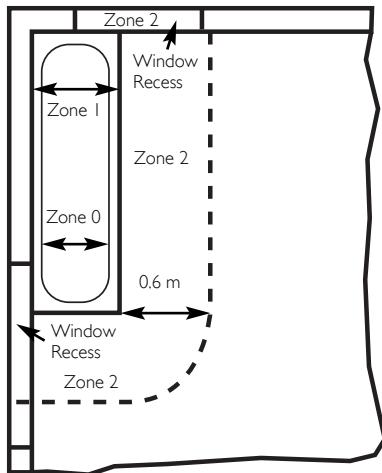

Fig. 11 In GB Only
1. If the boiler is fitted in a room containing a bath or shower and **NOT FITTED** with any optional integral timer or thermostat, it can be fitted in zone 2, (Figs. 11 & 12 show zone dimensions for a bathtub. For other examples refer to the Current I.E.E. Wiring Regulations) reference must be made to the relevant requirements. In GB this is the current I.E.E. Wiring Regulations and Building Regulations. In IE reference should be made to the current edition of I.S. 813 "Domestic Gas Installations" and the current ETCL rules.